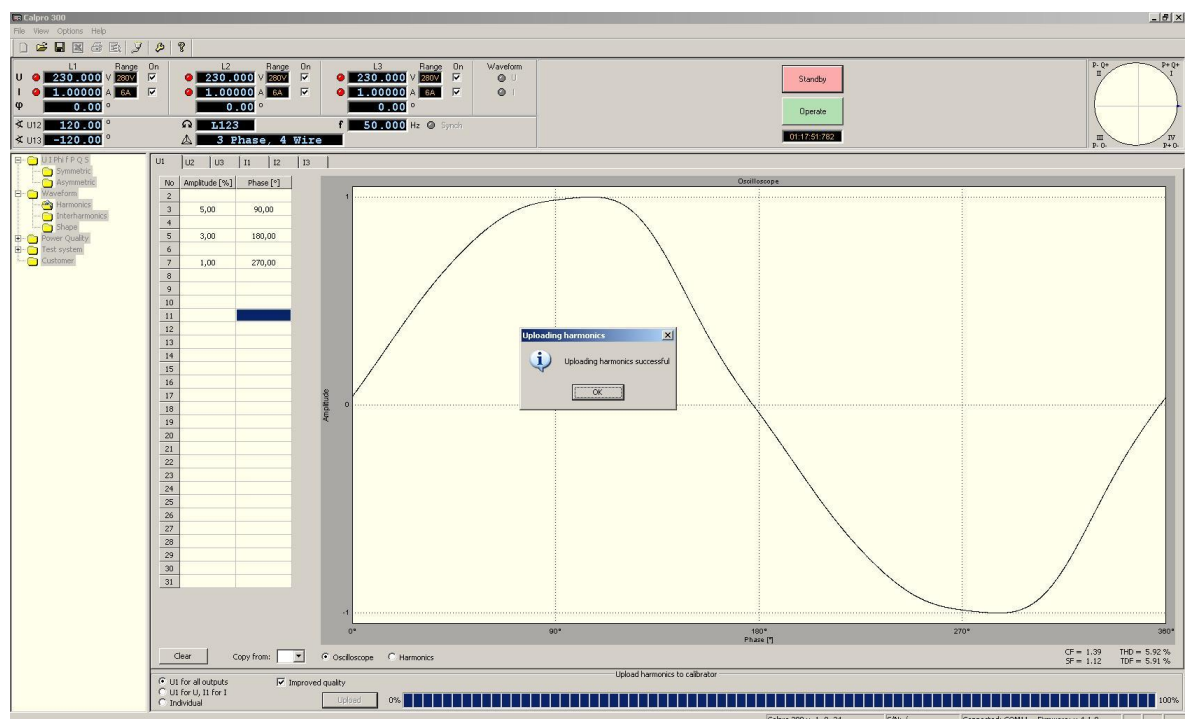

Fig.3. Harmonics window after successful uploading.
- press button “Upload”, from this moment harmonics are transmitted from computer to the C300 calibrator. It’s takes a few minutes. When transmission is finished appears statement “Uploading harmonics successful” as on Fig.3,